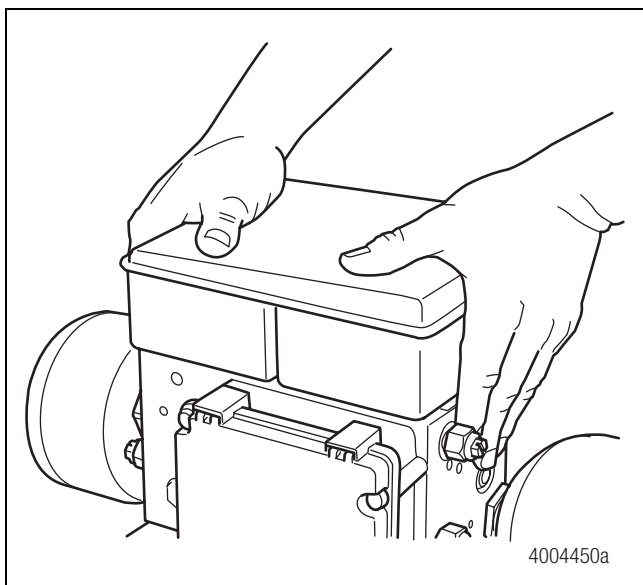

Figure 12
4. Install the new reservoir by pressing it carefully and completely into the grommets in the ports. Figure 12.